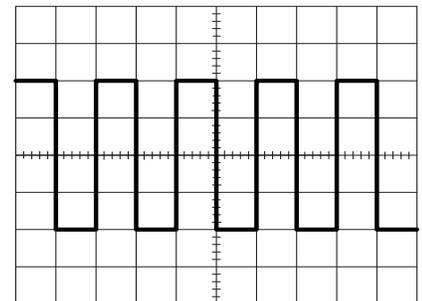

Figure 1
- Engage the POWER switch (33) and make sure the power LED (34) is turned on. A trace should appear on the CRT screen (4) in about 20 seconds. If no trace appears after one minute, double check the switch and control settings.
- Adjust the trace with the appropriate brightness and sharpness with the INTEN (1) and FOCUS (2) controls.
- Align the trace with the horizontal center line of the grid by adjusting the CH 1 POSITION (9) control and TRACE ROTATION (10) control (adjustable by screwdriver).
- Align the beginning of the trace with the left-most vertical grid line on the CRT screen by adjusting the HORIZ. POSITION (21) control.
- Connect a probe to the CH 1 INPUT terminal (5). Make sure the slide switch on the probe is set to the "X1" position.
- Connect the probe tip to the CAL (36) terminal.
- Set the CH 1 AC-DC-GND (6) switch to AC and release the GND. A square waveform similar to the one shown in Figure 1 should now be displayed on the CRT screen (The vertical lines of a square wave may be invisible on your screen but you should still be able to view the peaks and valleys of the waveform).